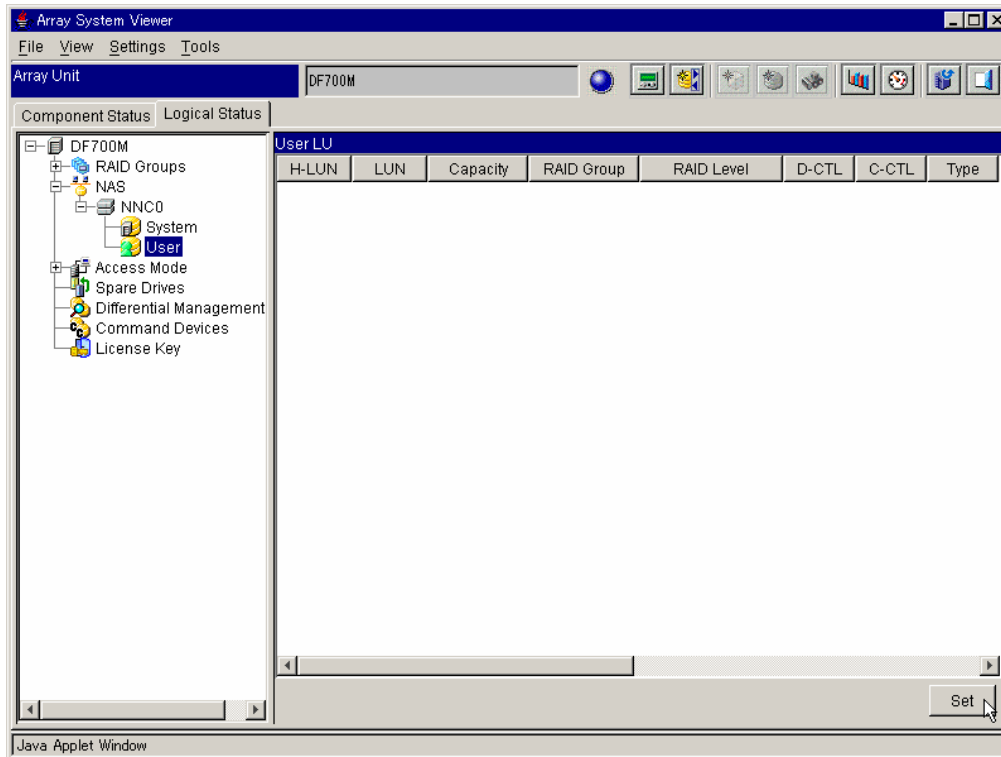

Figure 10.12 Array System Viewer - User
2. Click the **NAS** plus sign. See Figure 10.12.